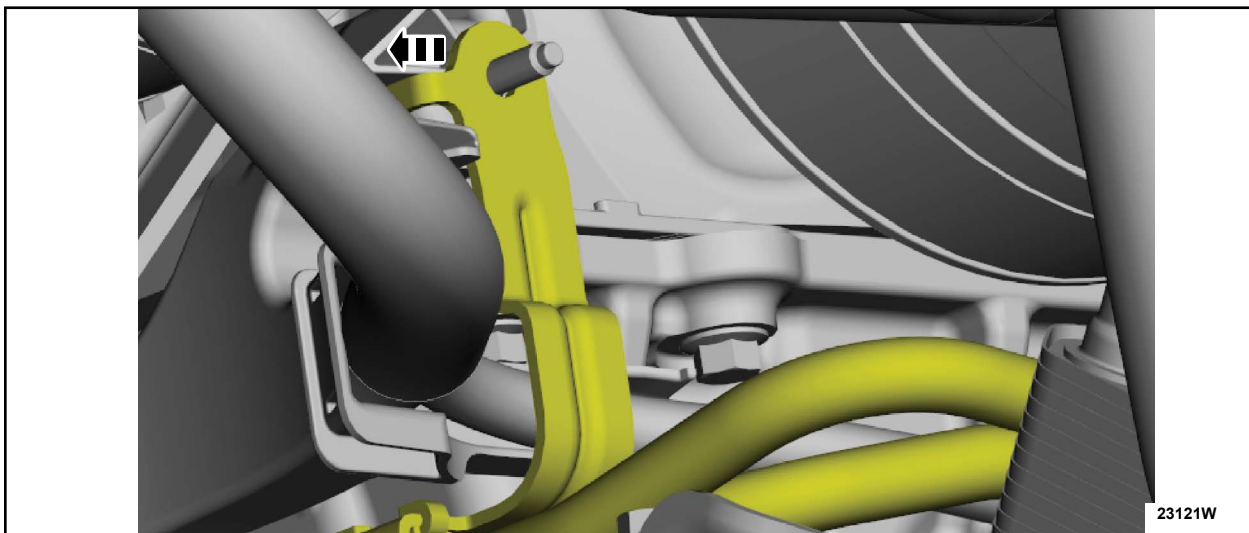

FIGURE 28
43. Position the transmission cooler tube bracket onto the stud bolt. See Figure 28.